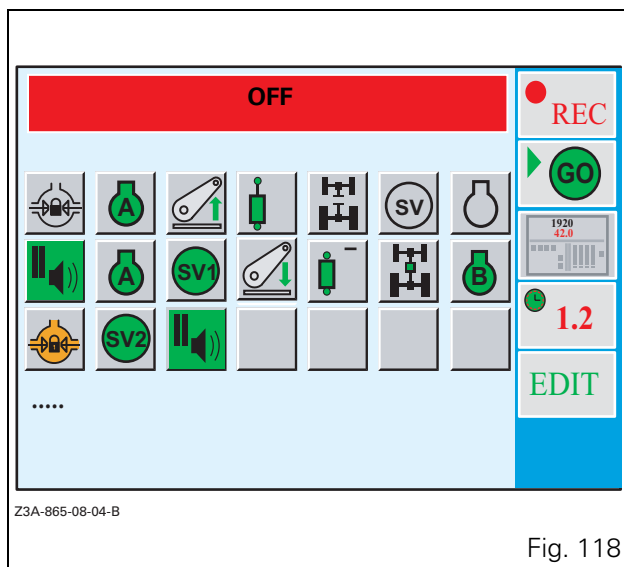

Fig. 118
- Validate either by pressing the encoder, or by pressing key «₁. The window (Fig. 118) is displayed with the icon deleted.